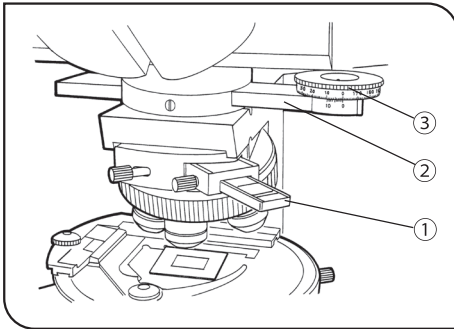

Fig. 19
When Using the Intermediate Attachment for orthoscopic observation (U-OPA) (Figs. 19 & 20)
1. Fully insert the alignment polarizer ①, provided with the U-OPA into the test plate adapter (U-TAD). Tighten its clamping knob. (Fig. 19)
3. Insert the rotatable analyzer (U-AN360P) ② into the analyzer slot on the intermediate attachment. Engage the analyzer, loosen the clamping screw and set the analyzer's rotation dial ③ to 0°. (Fig. 19)